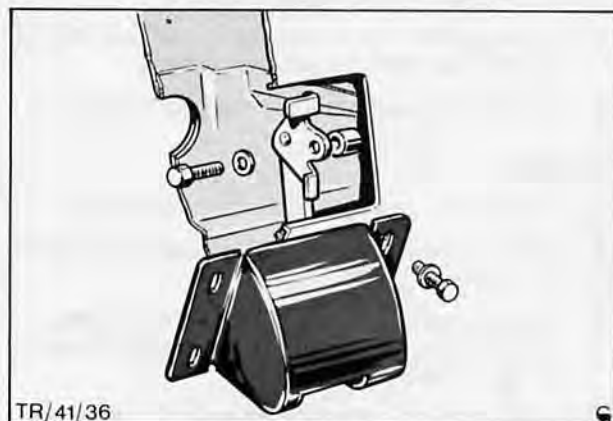

Fig. 61. Tailgate lock assembly
2. Remove bolt and spacer securing lock release lever to tailgate, Fig. 61.